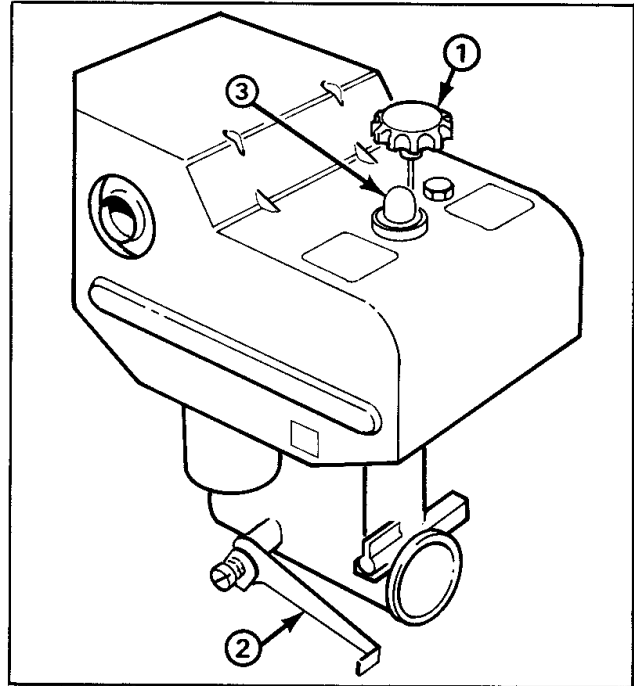

Figure 10
**Throttle** (Fig. 10) — Pulling the throttle upward increases the engine speed.
**Choke** (Fig. 10) — Choke is located on left side of engine. Push choke down to FULL choke position to start a cold engine. As engine warms up, move choke up gradually to off.
**Primer** (Fig. 10) — Press primer to pump small amount of gasoline into engine for improved cold weather starting.
3. Move choke to full choke position (Fig. 10).
5. Depress primer (Fig. 10) five times.
7. After engine starts, immediately move choke (Fig. 10) to 3/4 position. As engine warms up, move choke to 1/2 position; then to OFF position. If engine falters, return choke to 1/2 position. When engine warms sufficiently, move choke to OFF position.